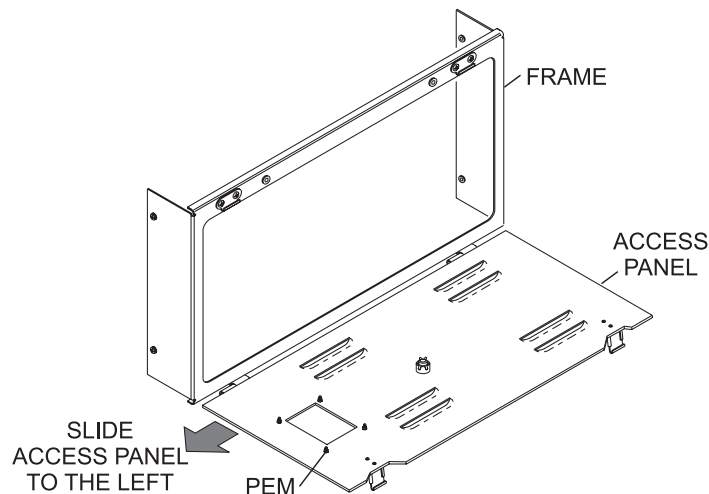

Figure 1
4. Open the new Japanese Electrical Box Cover package (P/N 12-862948-000) and unhinge the access panel by sliding it to the left. Set the access panel aside for now. Refer to *Figure 1*.